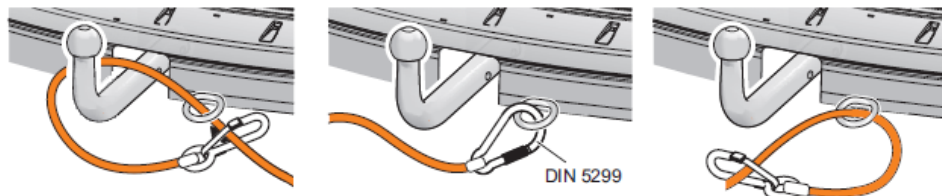

Figure 20 - Breakaway cable
3. Attach the breakaway cable to a suitably strong point on the vehicle (Figure 20).